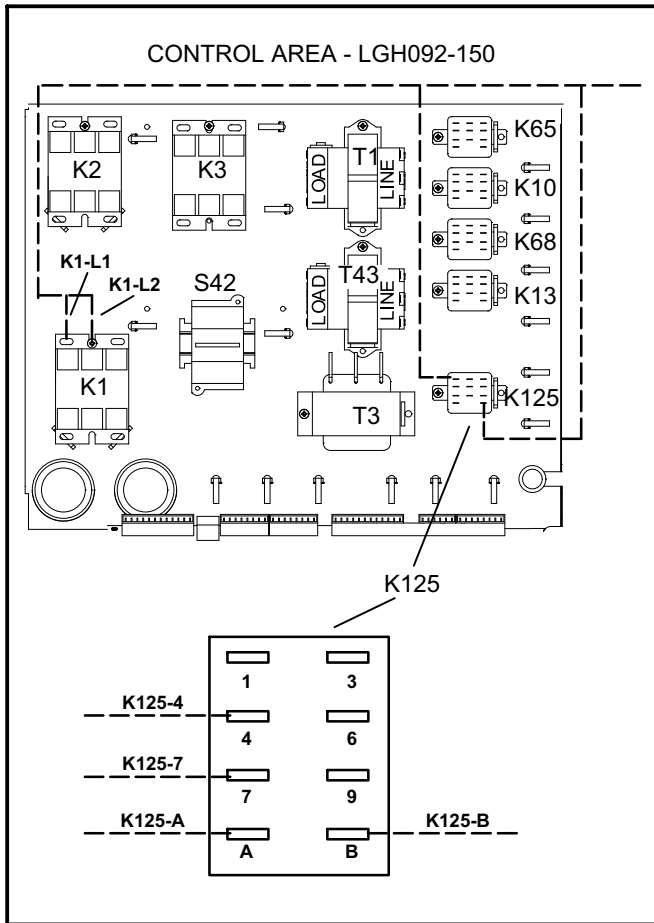

FIGURE 4
- 5- Open control access panel and install K125 as shown in figure 4. Secure with #8 screws provided in kit.
- 6- Locate existing wires in control box and connect to K125 as shown in figure 4.
- 6- Open control access panel and install K125 as shown in figure 4. Secure with #8 screws provided in kit.